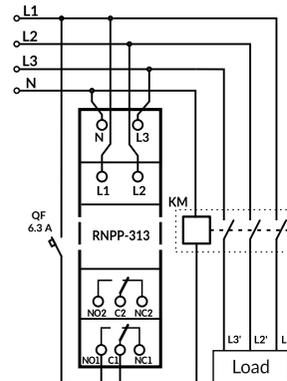

Figure 2
- 1) Connect the device according to the diagram shown in Fig. 2.